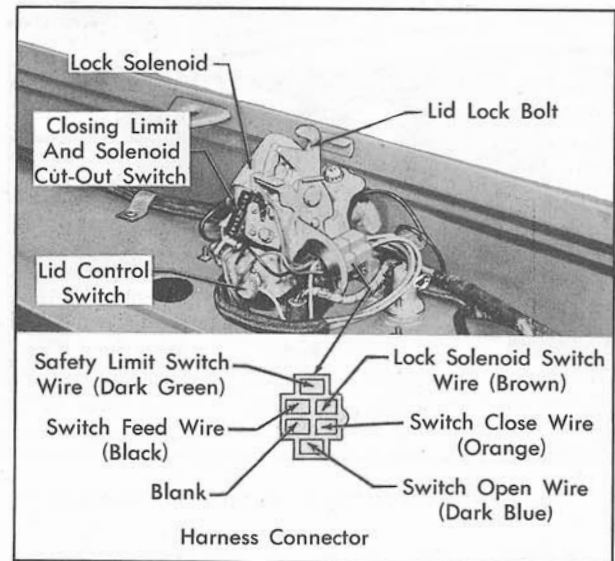

Fig. 17-93 Rear Compartment Lid Lock
The lock assembly incorporates a solenoid which provides the electrical unlocking feature of the lid, and two switches which energize relays in the relay box to open and/or close the lid. The lid closing limit and solenoid cut-out switch contacts are incorporated in one switch case as shown in Fig. 17-93. One set of contacts controls the opening and closing of the solenoid circuit; the remaining set of contacts completes the ground circuit for the relays and also serves as the lid closing limit switch. The lid control switch controls the opening and closing of the lid by rotating the lock cylinder.
1. Disconnect harness connector from lock connector, Fig. 17-93.